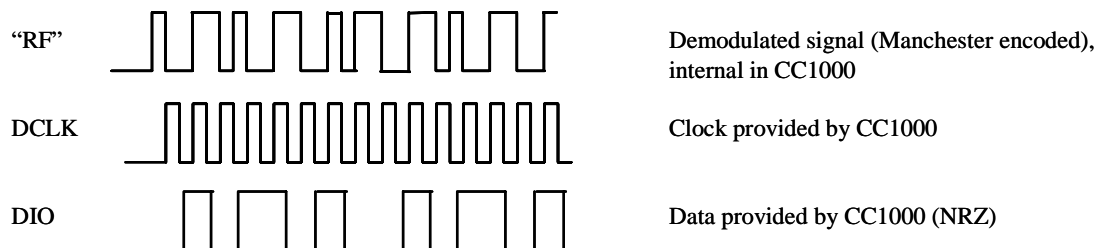

**Figure 7. Synchronous NRZ mode**
*Synchronous NRZ mode.* In transmit mode **CC1000** provides the data clock at DCLK, and DIO is used as data input. Data is clocked into **CC1000** at the rising edge of DCLK. The data is modulated at RF without encoding. **CC1000** can be configured for the data rates 0.6, 1.2, 2.4, 4.8, 9.6, 19.2, 38.4 or 76.8 kbit/s. For 38.4 and 76.8 kbit/s a crystal frequency of 14.7456 MHz must be used. In receive mode **CC1000** does the synchronisation and provides received data clock at DCLK and data at DIO. The data should be clocked into the interfacing circuit at the rising edge of DCLK. See Figure 7.